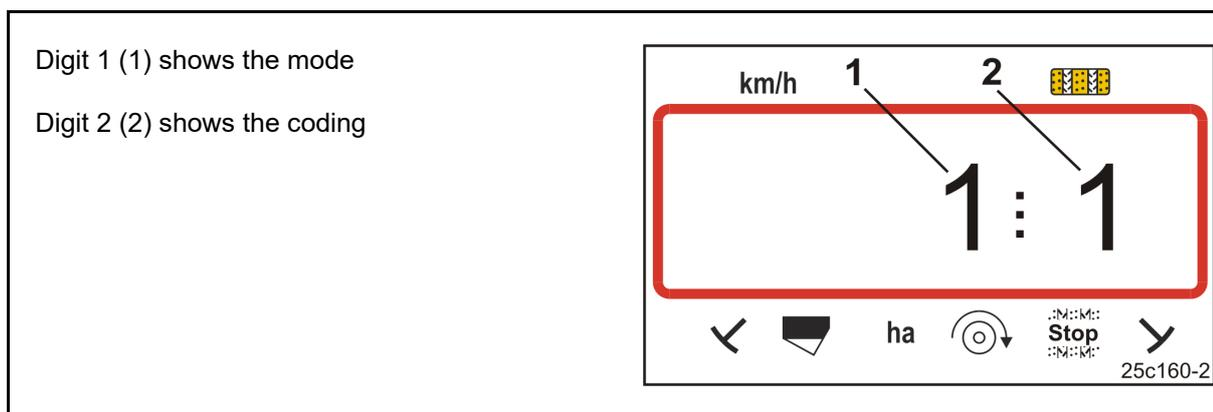

Fig. 20
The control terminal requires input of the implement data in coded form (see Fig. 20).
2. Press the  button repeatedly until the desired mode is displayed (Fig. 20/1).